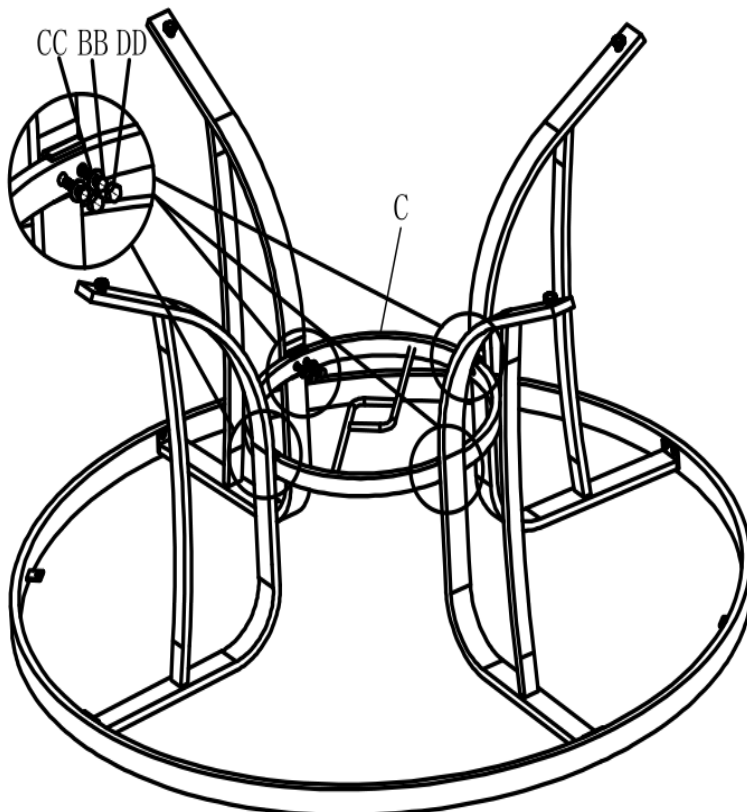

Figure 2
Step 3. Assemble connector (C) to the table leg (B) with bolts (BB) and washer (CC) as shown in figure 2.
Step 4. Tighten all bolts with wrench (EE) . Cover all bolts with bolt caps(DD).